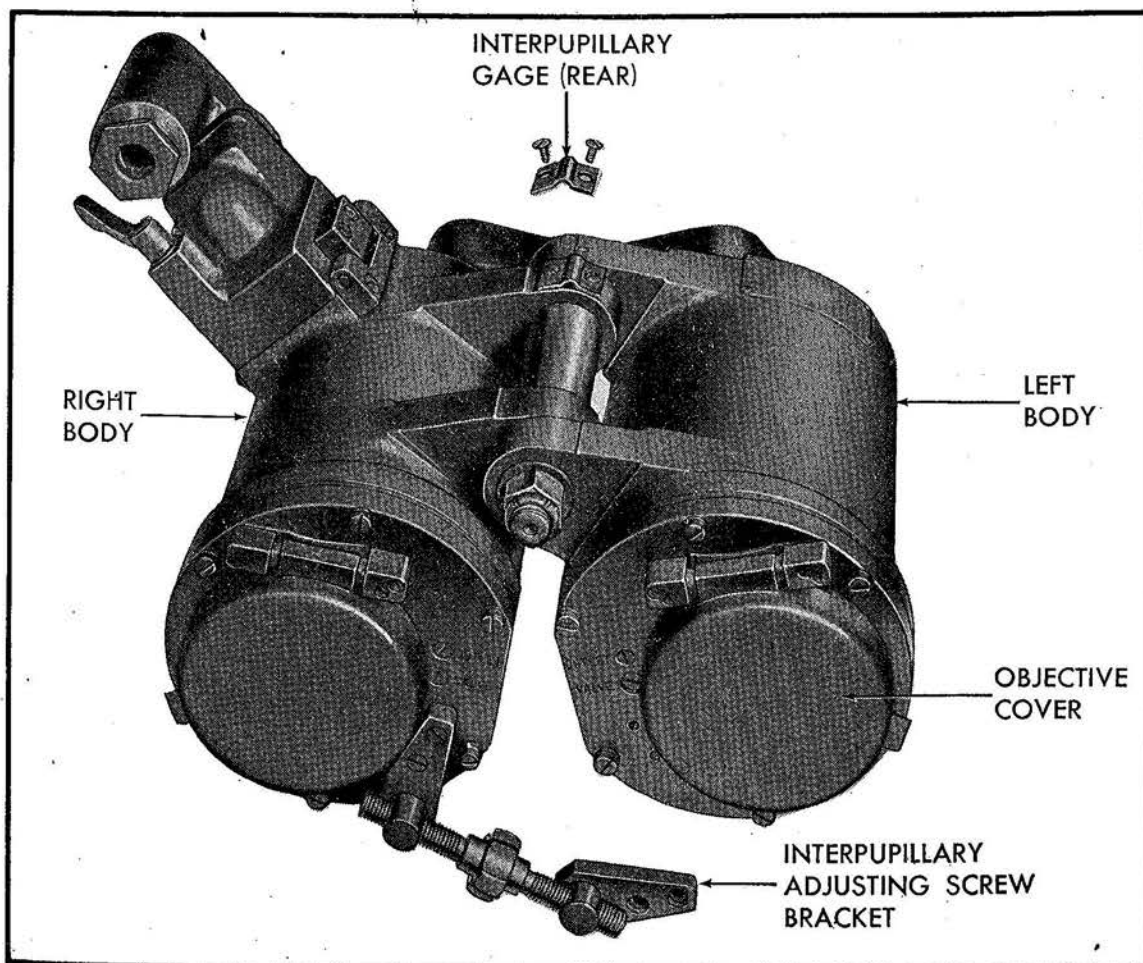

Figure 15.—Telescope Prepared for Installation
3. Remove the two screws holding one of the interpupillary adjusting screw brackets to the telescope (see Figure 15).
4. Remove the two screws holding the rear interpupillary gage to the telescope (see Figure 15).